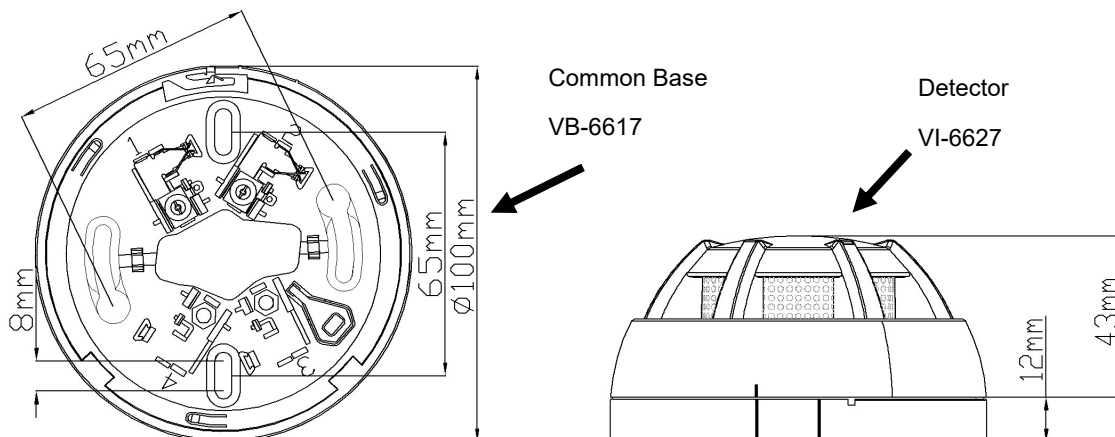

Fig.1 Dimensions
- ◇ **Dimensions: Showing on Fig.1**